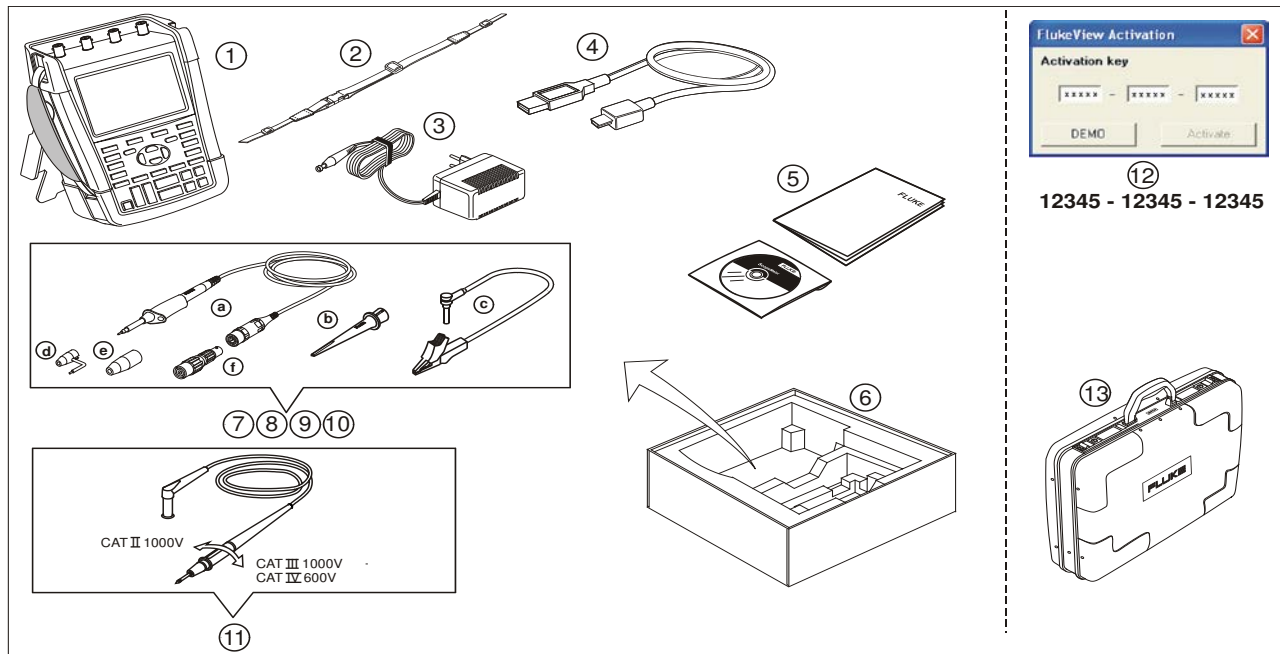

Figure 1. Test Tool Kit
The items in Figure 1 are included in your test tool kit:
3	Power Adapter (country dependent, may vary from what is shown in Figure 1)
- Do not connect the ground spring (figure 1, item d) to voltages higher than 42 V peak (30 Vrms) from earth ground.
- When using the ground reference lead with any of the probes, make sure that the black isolation sleeve (Figure 1, item. 10e) is over the probe tip.